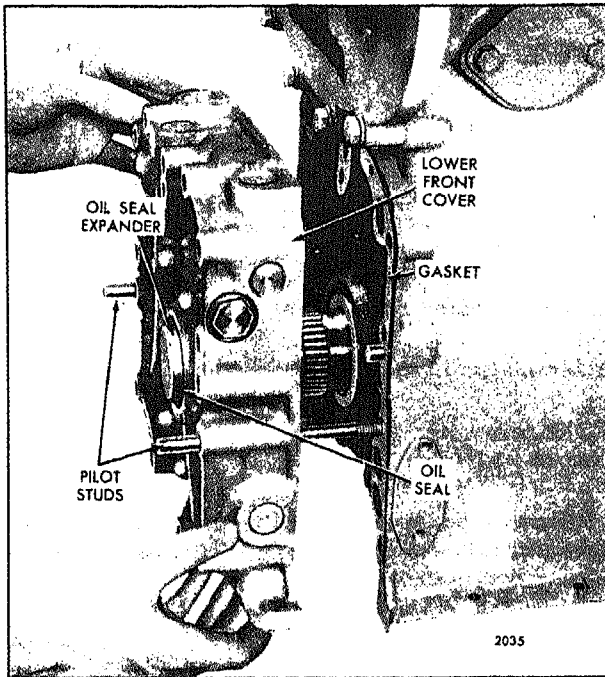

Fig. 3 - Installing Lower Engine Front Cover --
3. Thread two 3/8"-16 pilot studs approximately 8" long into two diametrically opposite bolt holes in the cylinder block to guide the cover in place (Fig. 3).
4. Apply a light coat of cup grease to the lip of the oil seal. Slide the engine front cover over the oil seal expander and pilot studs as shown in Fig. 3. Push the cover forward until the inner rotor of the oil pump contacts the pump drive gear on the crankshaft. Rotate the crankshaft slightly to align the teeth, then push the cover up against the gasket and block. Do not force the cover.